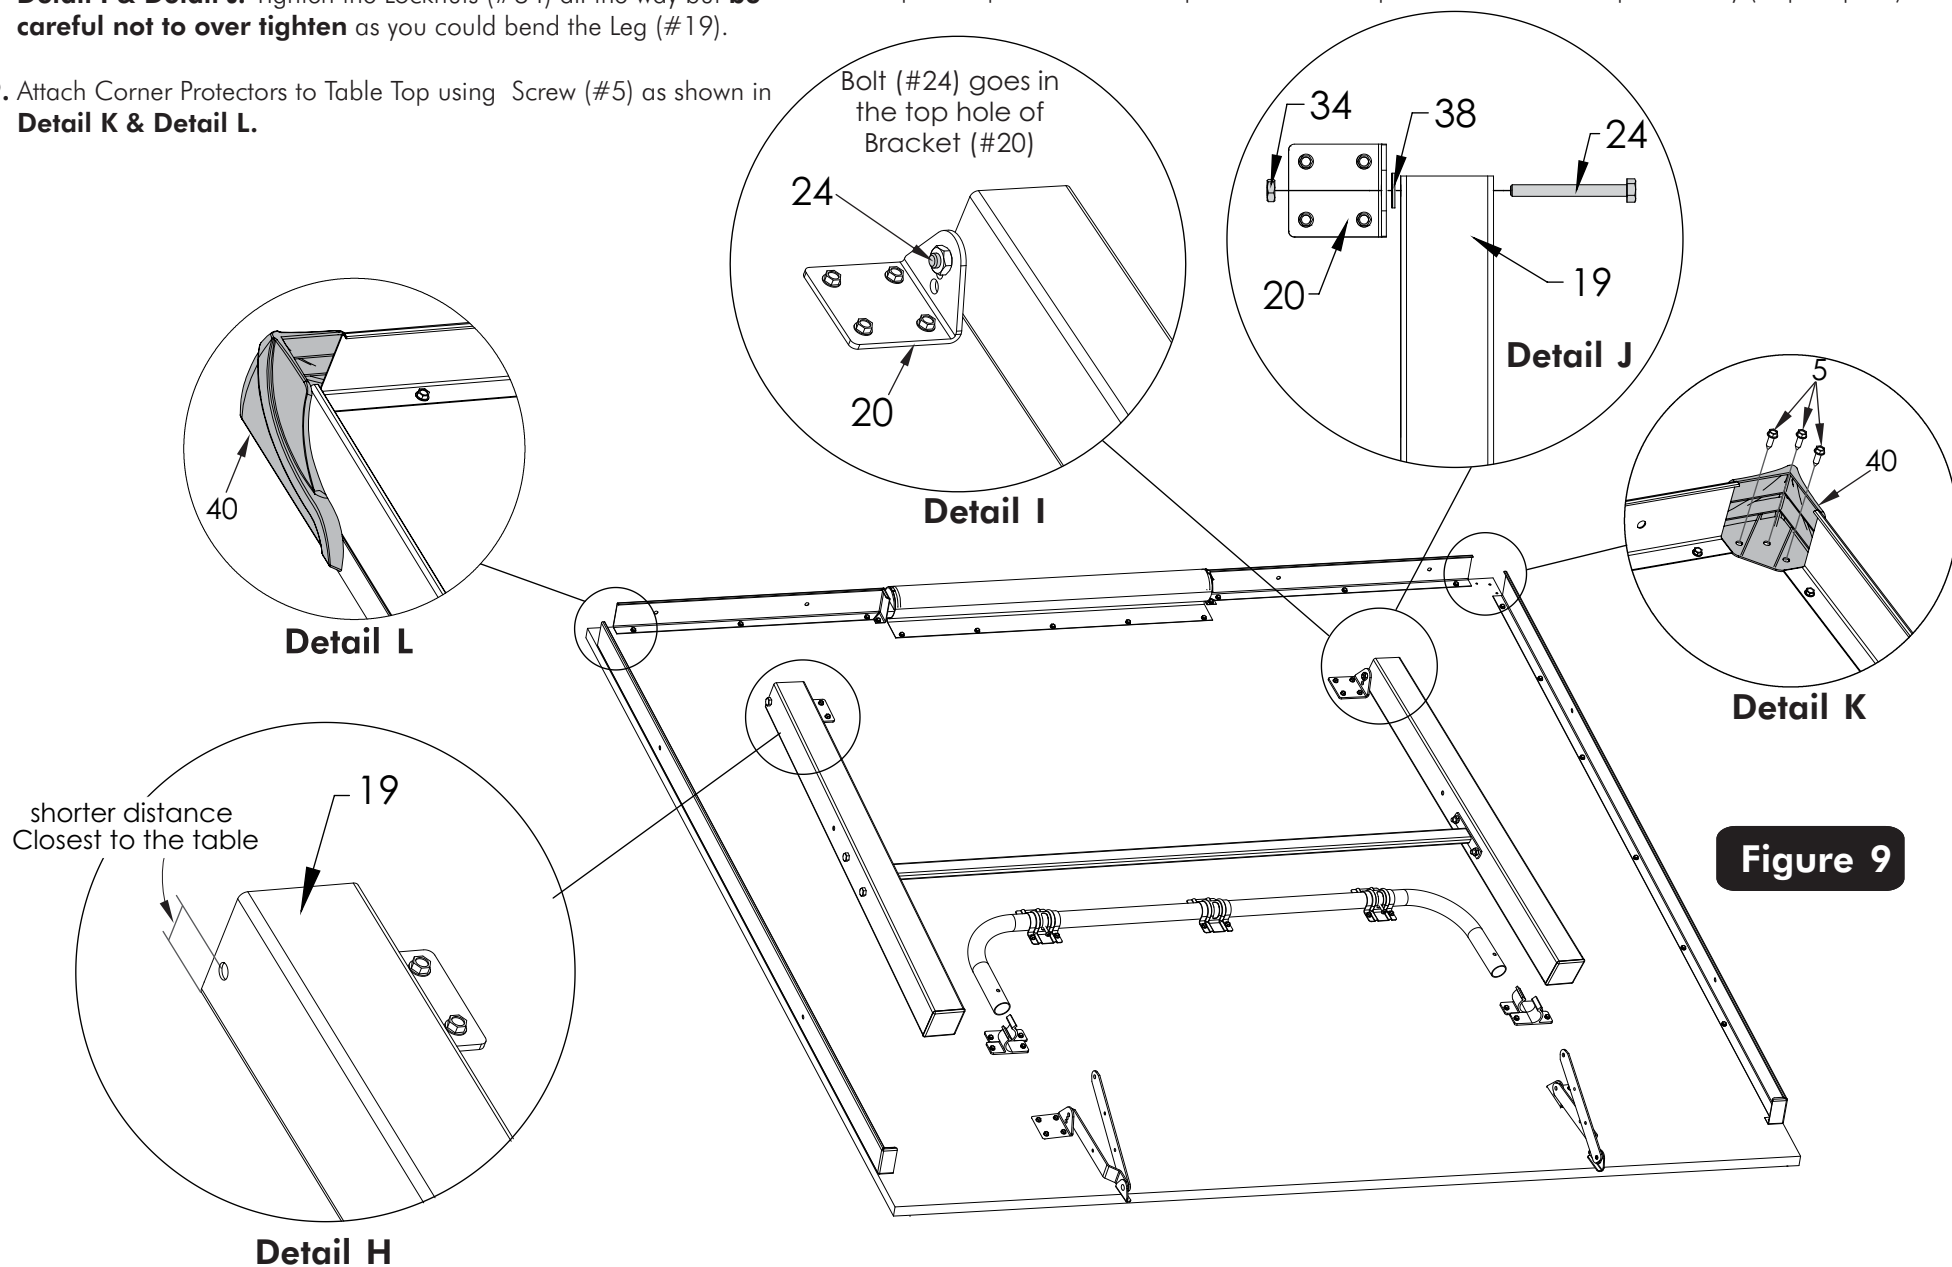

Figure 9
17. Place Leg Assembly (from previous step) on table top. **Be sure that the offset holes in (#19) legs are closest to the table.** See **Figure 9 & Detail H.**